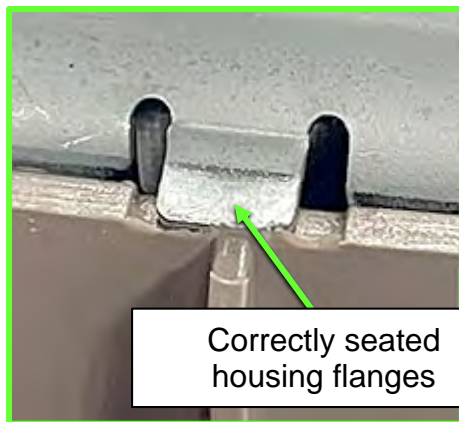

Figure 31
32. Ensure each of the four (4) housing flanges are positioned over the cover-wall edge and the housing corners are seated with no cushion material visible.
- Figure 31 and Figure 32 show an example of one (1) of the four (4) housing flanges seated correctly.